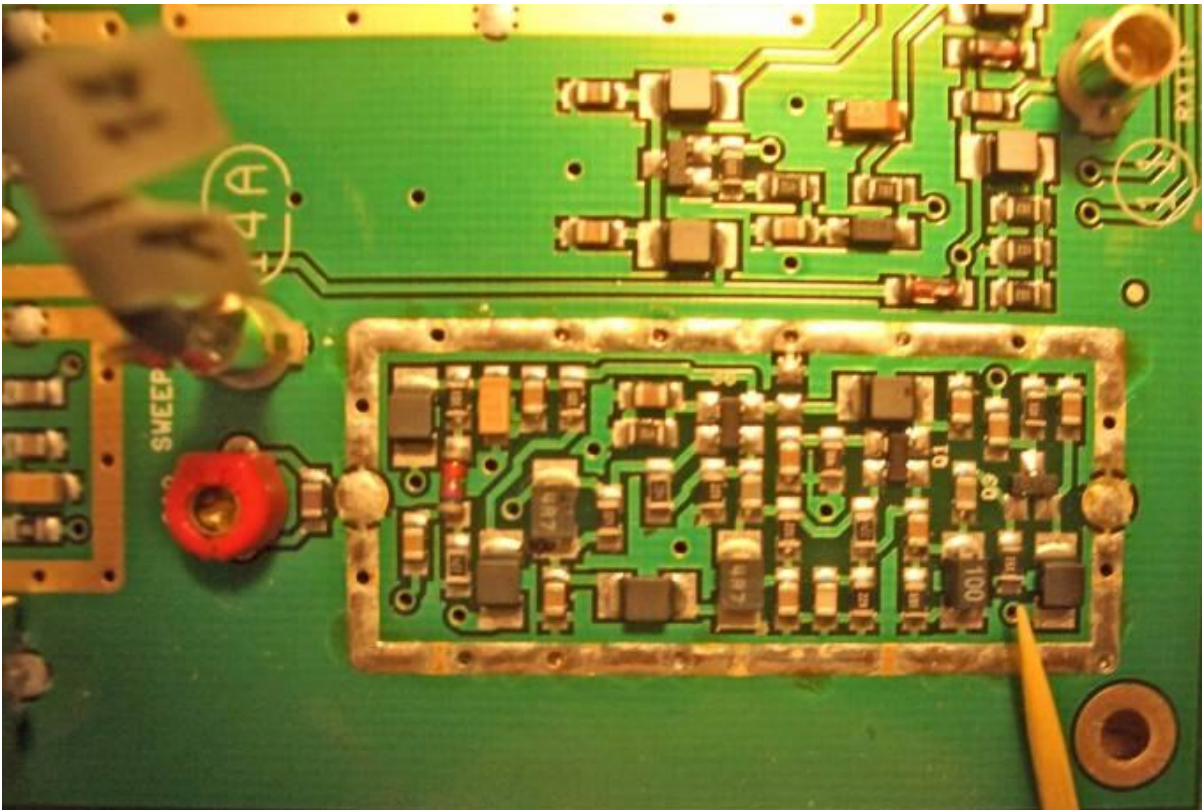

Figure A-2: Location of R26
7. **Note** the rectangular area directly between the **14A** connector jack and the front edge of the IF board (immediately to the left of the 1.8 kHz roofing filter). The pointer tip in Figure A-2 shows R26.
8. Attach a piece of the RG-178 coax across R26 with the coax shield attached to the ground plane (the ground plane is the end nearest the pointer in Figure A-2.).